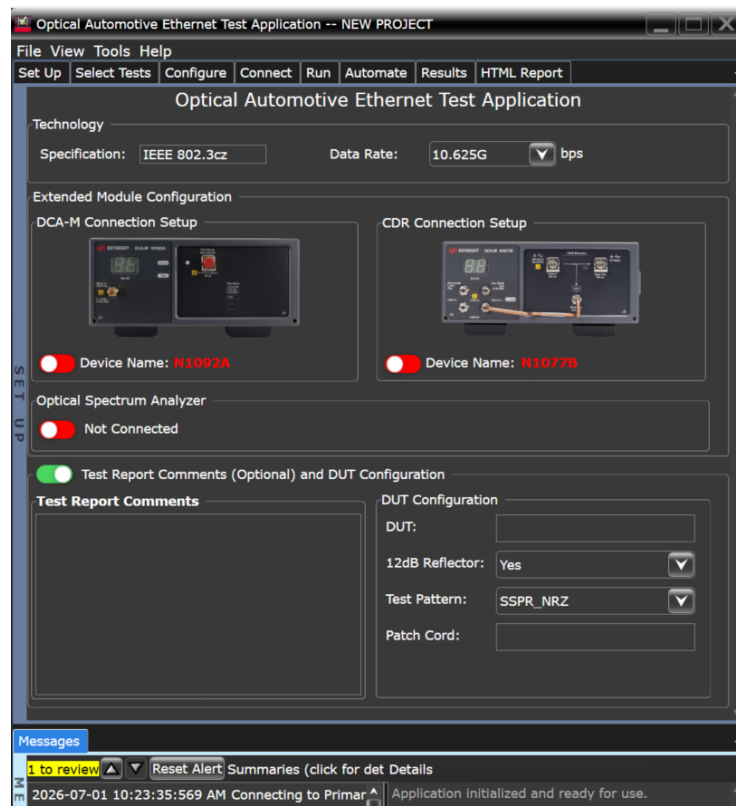

Figure 2-12 Set Up Tab
- 1 In the **Set Up** tab, as shown in Figure 2-12, select the **Specification**, **Data Rate**, and equipment or **Extended Module Configuration**.